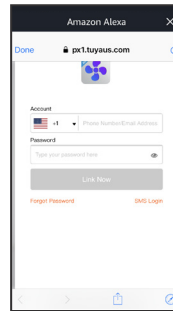

Fig. 6
Step 3. Login your RolliCool account and tap “Link Now”. Follow any additional in-app instructions as needed (fig. 6).